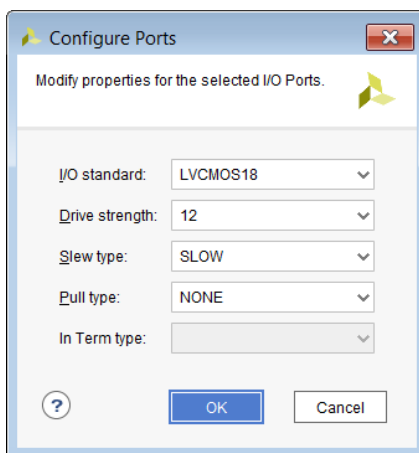

Figure 3-12: Configure Ports Dialog Box
3. In the Configure Ports dialog box (Figure 3-12), edit the following options, and click **OK**: